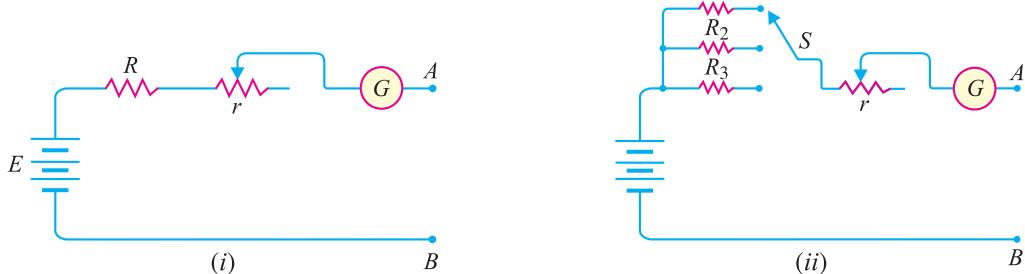

Fig. 22.5
**(iii) Multimeter as ohmmeter.** Fig. 22.5 (i) shows the circuit of ohmmeter. The multimeter employs the internal battery. A fixed resistance  $R$  and a variable resistance  $r$  are connected in series with the battery and galvanometer. The fixed resistance  $R$  limits the current within the range desired and variable resistance  $r$  is for zero-adjustment reading. The resistance to be measured is connected between terminals  $A$  and  $B$ . The current flowing through the circuit will depend upon the value of resistor connected across the terminals. The ohmmeter scale is calibrated in terms of ohms. The ohmmeter is generally made multirange instrument by using different values of  $R$  as shown in Fig. 22.5 (ii).